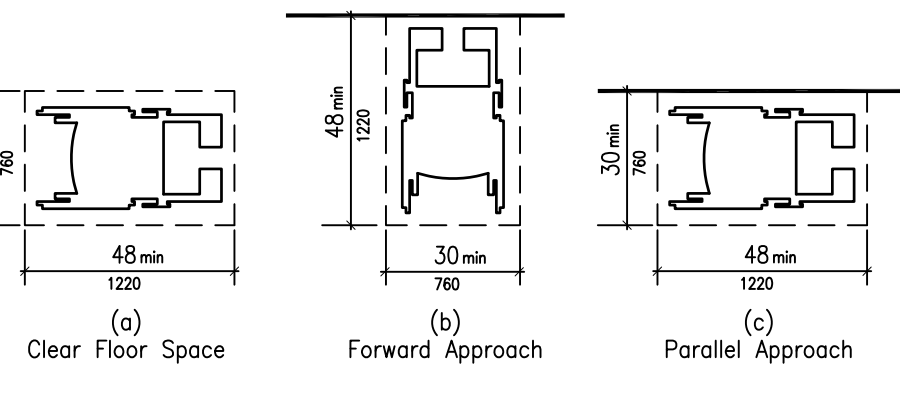

Fig 4
a. A CLEAR FLOOR SPACE OF 30"x48" SHALL BE PROVIDED FOR FORWARD AND PARALLEL APPROACHES SEE FIG. 4.